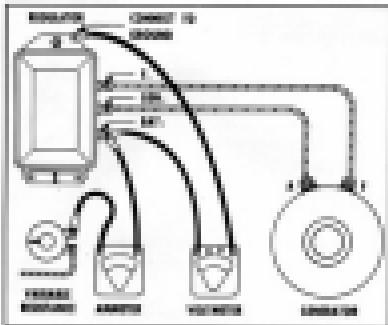

Fig. 590. Voltage Setting Checked with Variable Resistance
VARIABLE RESISTANCE METHOD.—Connect ammeter into charging circuit at the "BAT" terminal in series with a 14 ohm variable resistance and connect voltmeter from this terminal to ground as shown in Fig. 590. Increase generator speed to where it would normally produce rated output. If less than 8 amperes is obtained, turn on lights to permit increased generator output.
- JUMPER LEAD METHOD**—Remove the regulator cover and connect a jumper lead across the voltage regulator contact points. (Fig. 590). Turn on lights and accessories to prevent high voltage during the test. With generator operating at medium speed, and with regulator at operating temperature, note the current setting. Adjust by turning adjusting screw clockwise to increase the current setting or counterclockwise to decrease the setting. See caution note under VOLTAGE SETTING of VOLTAGE REGULATOR CIRCUITS AND ADJUSTMENTS section.